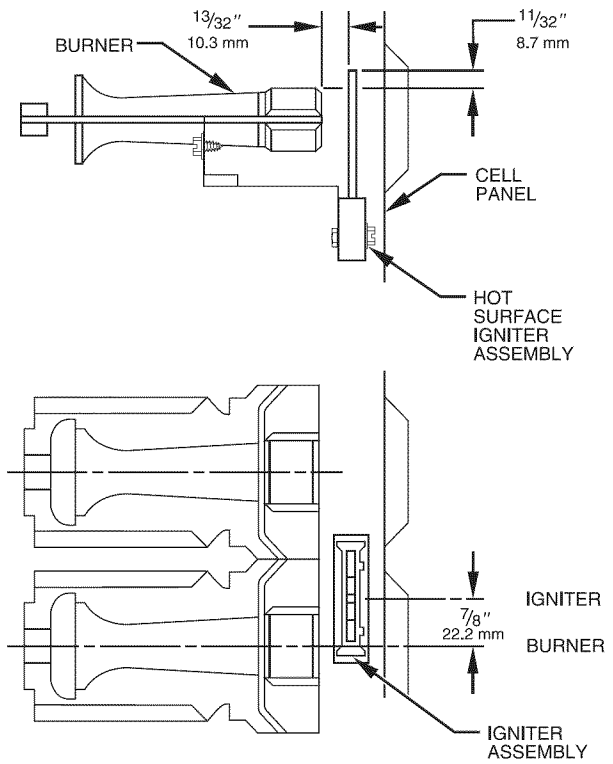

Fig. 23 - Silicon Carbide Igniters
7. For Silicon Carbide igniters, see Fig. 23.